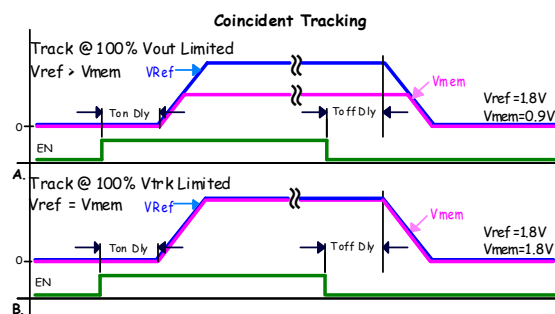

FIGURE 15. COINCIDENT TRACKING
The ZL9117M offers two modes of tracking: coincident and ratiometric. Figures 15 and 16 illustrate the output voltage waveform for the two tracking modes.
- Track at 100% VOUT limited. Member rail tracks the reference rail and stops when the member reaches its target voltage, Figure 15\(A\).
- Track at 100% VTRK limited. Member rail tracks the reference at the instantaneous voltage value applied to the VTRK pin, Figure 15\(B\).